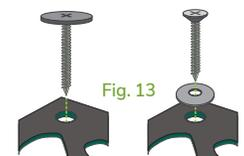

Fig. 13
- **Face-Mount: Design-Vu Panel Installation Screws are recommended** OR deck screws with min. 1/8" thread  $\varnothing$  x min. 1 5/16" length, with 3/4" washers to cover drill holes (Fig. 13).